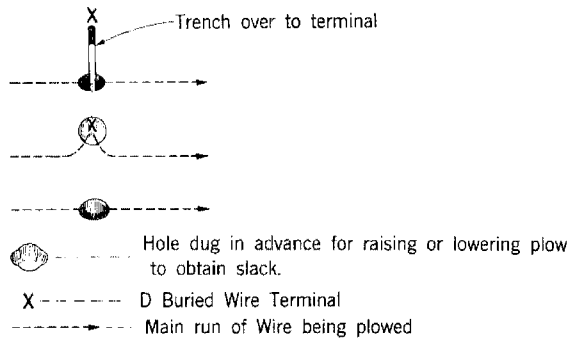

Fig. 6 – Measure Amount of Slack at Terminal
- (b) Where possible, place the terminals in advance of the wire plowing operation. This provides the workman with an exact reference point for measuring the proper amount of slack to be left at each location. Fig. 6 indicates some methods for accomplishing this.